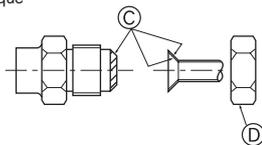

Fig. 4-1
- Apply thin layer of refrigerant oil to pipe and joint seating surface before tightening flare nut. Ⓐ (Fig. 4-1)
- Use two wrenches to tighten piping connections. Ⓑ (Fig. 4-1)
- Apply refrigerating machine oil over the entire flare seat surface. Ⓒ (Fig. 4-1)
- Use the flare nuts for the following pipe size. Ⓓ (Fig. 4-1)
Ⓐ (Fig. 4-1)
Ⓑ (Fig. 4-1)